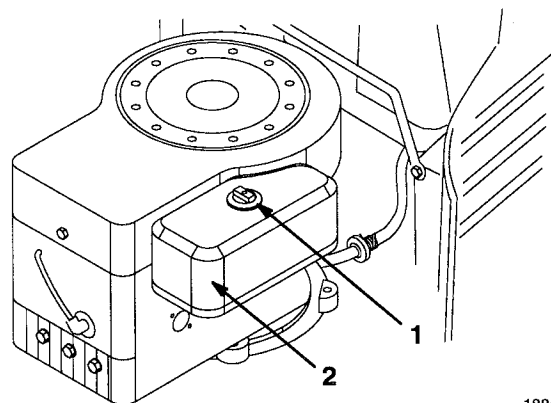

Figure 27
3. Clean around the air cleaner to prevent dirt from getting into the engine and causing damage. Unscrew the knob and remove the air cleaner cover (Fig. 27).
3. Install the air cleaner cover and knob (Fig. 27). Tighten the knob snugly.